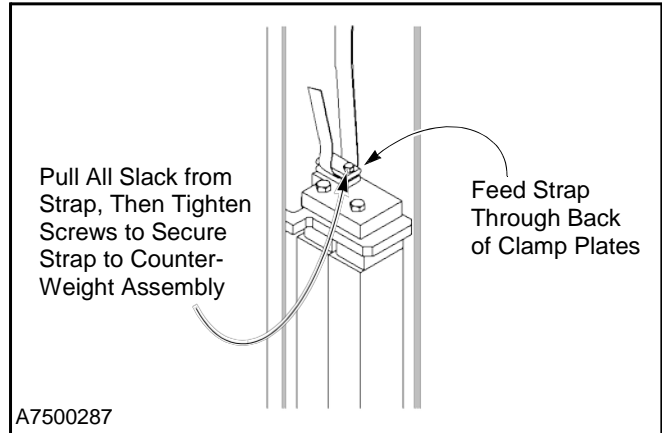

Figure 33
9. Now attach the free end of each strap to its associated counterweight. The end of each strap is routed through the back of the counterweight clamp plates located at the upper end of the weight. Before the clamp plate screws are tightened, be sure to tightly pull the slack from each strap. (See Figure 33.)